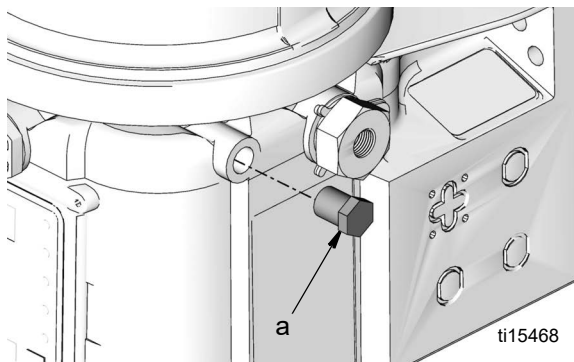

FIG. 8
3. Use a wrench to loosen plug (a) from return location. Remove plug from port (FIG. 8).